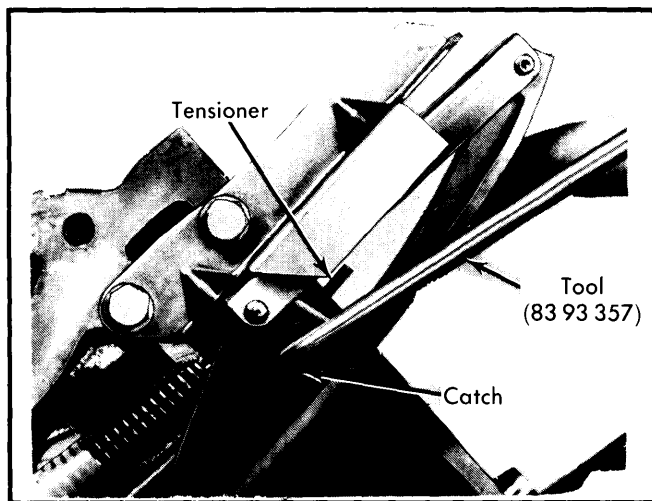

Fig. 2 Chain Tensioner and Tensioner Tool (Tension Release Position)
serting tool (83 93 357) into tensioner catch and pulling upward. See Fig. 2.
3) Tension chain by inserting tool (83 93 357) into tensioner catch and pushing down to turn catch over latch arm. See Fig. 2. To complete installation, reverse removal procedures.